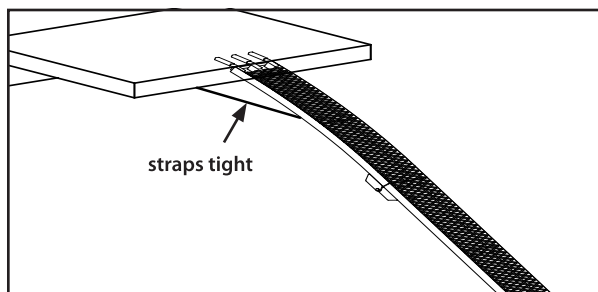

Figure 2
1. On level ground, rest ramp on the tailgate. **SEE FIGURE 2.** Be sure ramp is centered on tailgate and aligned correctly to your wheel width.